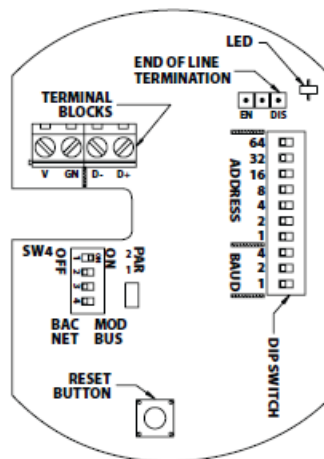
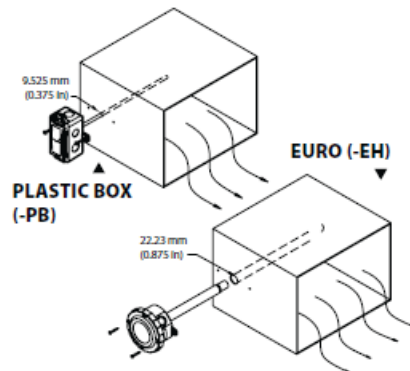
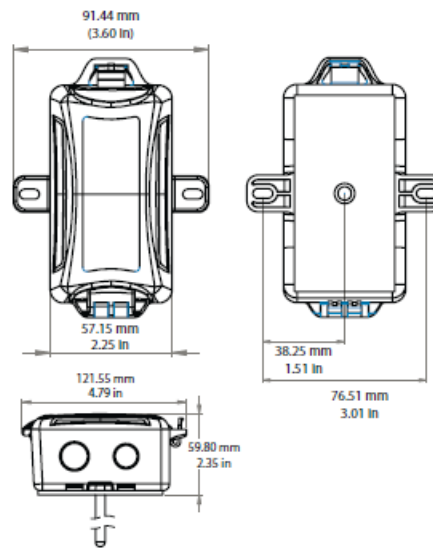
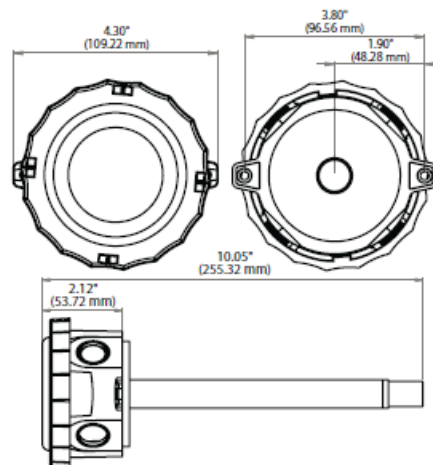

Figure 1: Front View Layout
Figure 2: Duct Mounting
Figure 3: Enclosure Dimensions for Plastic Box (-PB) Temperature Only
Figure 4: Enclosure Dimensions for EURO (-EH) RH and RH/Temperature
- Duct probe should be placed (3) to (4) duct segments down from any bend or obstructions and away from 90° bends.
The BACnet/Modbus RTU Duct Temperature-only sensor uses the Plastic Box (-PB) enclosure. Alternatively, the Euro (-EH) enclosure is used for the Relative Humidity (RH) sensor and RH/Temperature Combo sensor (see Figure 3 and Figure 4). Be sure to follow the instructions listed for your enclosure.
Refer to the Wiring Instructions section to make necessary connections. After wiring, shut the cover of the enclosure. Reference Figure 1, Figure 2, and Figure 3.
After wiring, twist the cover until the enclosure is tightly sealed. Reference Figure 1, Figure 2, and Figure 3.
The reset button can be used to reset the device without disconnecting power. The location of this button is shown in Figure 1.